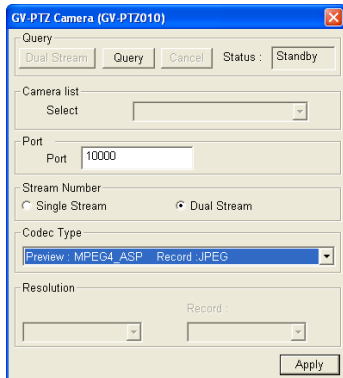

Figure 23-4
- The GV-System will automatically query for the IP camera, and the status will be indicated as "Standby". If not, modify the HTTP port (Figure 23-3) and streaming port (Figure 23-4) to match those of the IP camera, and click the **Query** button to detect the IP camera again.